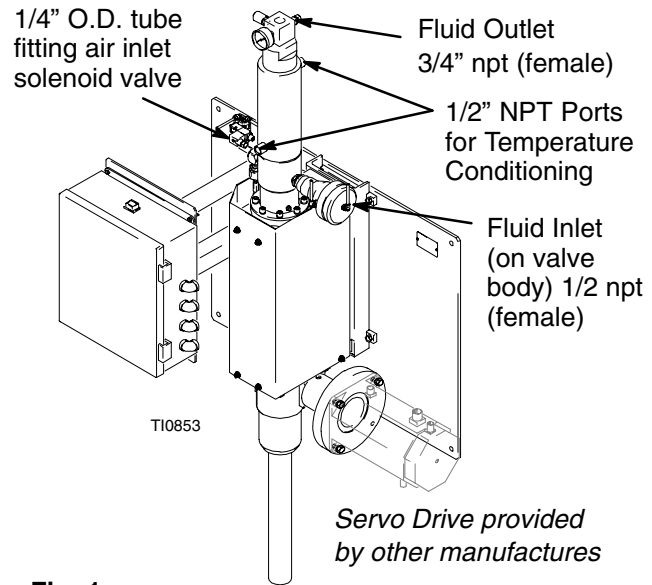

Fig. 1
1. Check all material hoses and fittings to ensure tightness to prevent any material leakage. Ensure that Input and Output hoses are correctly connected (See Fig.1).